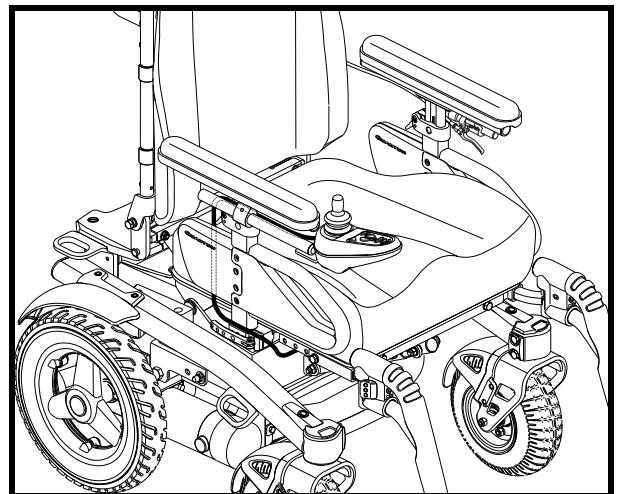

Figure 20. Cable Routing
7. Route the controller cable to the front of the power base and reconnect the controller. See figure 20.
12. Route the controller cable to the front of the power base and reconnect the controller. See figure 20.